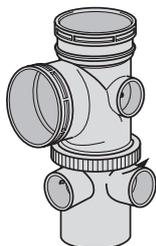

Fig.31a 104.412.92 Variable Boss Branch (spigot outlet) – slackening locking rings
104.412.92 Variable Boss Branch (spigot outlet) (Fig.31a-d) OR 104.422.92 Variable Boss Branch (socket outlet)
Step 1 – Slacken locking ring (Fig.31a)